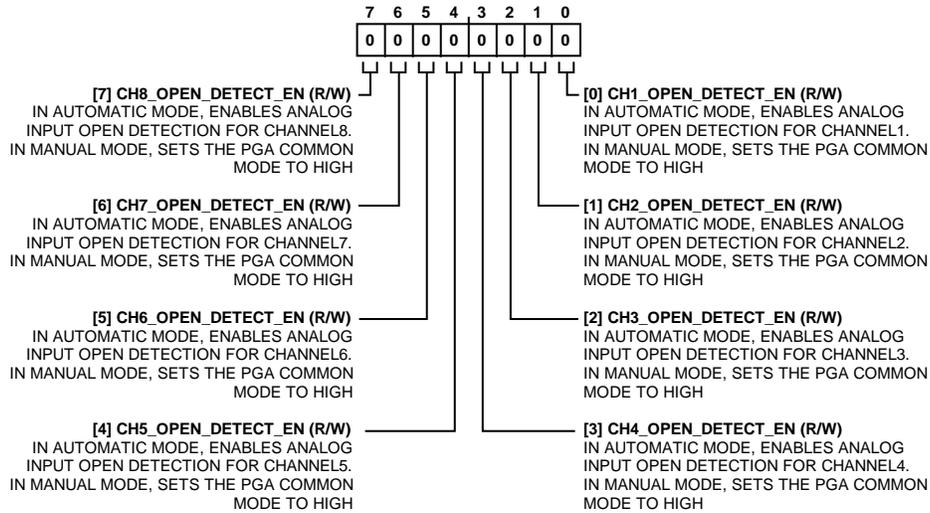

Figure 12. OPEN\_DETECT\_ENABLE Register, Address 0x23
In manual mode, if the ADC code repeats for a number of conversions, before assuming the sensor has been disconnected, this can be verified through changing the PGA common mode. The common-mode voltage of PGA is controlled by the corresponding  $CHx\_OPEN\_DETECT\_EN$  bit in the OPEN\_DETECT\_ENABLE register (Address 0x23), on a per channel basis, as shown in Figure 12. If changing the PGA common mode on a given channel changes the ADC output code, this indicates that the sensor has been disconnected. Otherwise, the sensor is still connected to the analog input.
In automatic mode, the previous method is implemented on chip, eliminating the burden on the back-end software that detects the sensor disconnection. The automatic mode is enabled through writing the number of conversions (N) before the flag triggers, as shown in Figure 11. Then, each channel checker can be enabled/disabled individually through the OPEN\_DETECT\_ENABLE register (Figure 12).